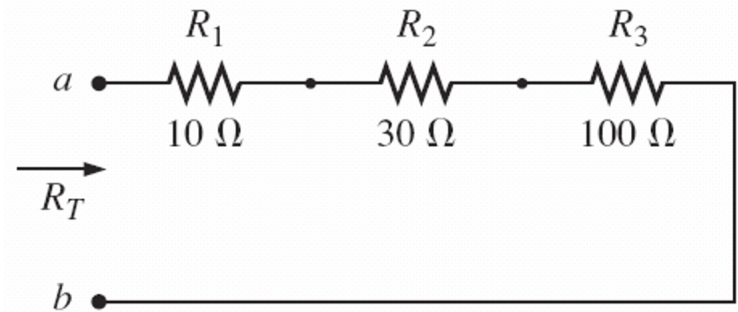
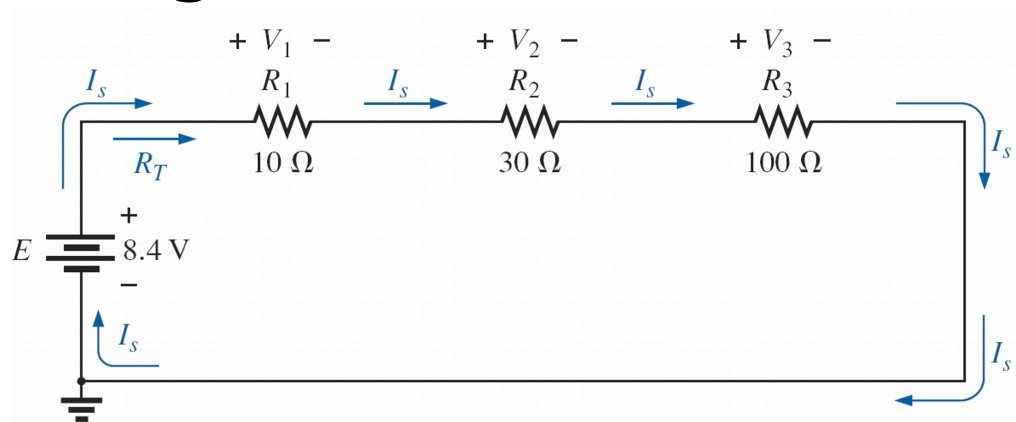

FIG. 5.4 *Series connection of resistors.*
FIG. 5.12 *Schematic representation for a dc series circuit.*
- If we now take an 8.4 V dc supply and connect it in series with the series resistors in Fig. 5.4, we have the series circuit in Fig. 5.12.